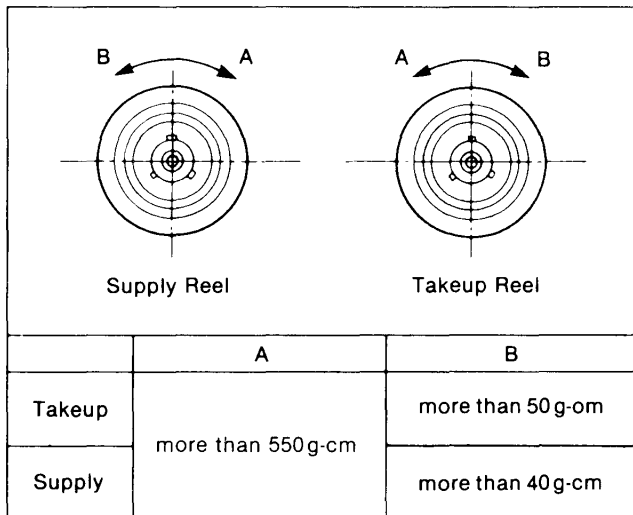

Figure M39 Specification of Brake Torque
4. Turn the torque gauge in the direction indicated in Figure M39 until the brake begins slipping and read the gauge.